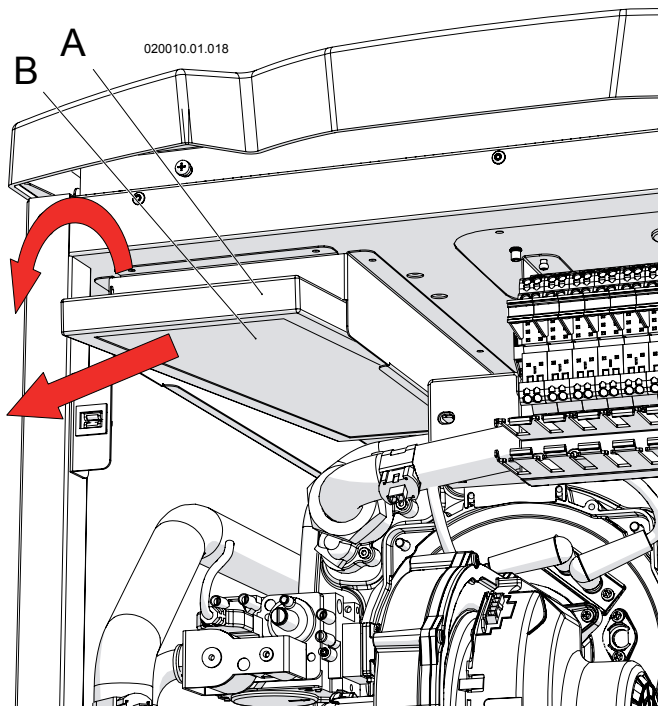

Figure 16-9 Remove the air filter "B"
- 2.- Pull down with a rotation the air filter "B" as per Figure 16-9;